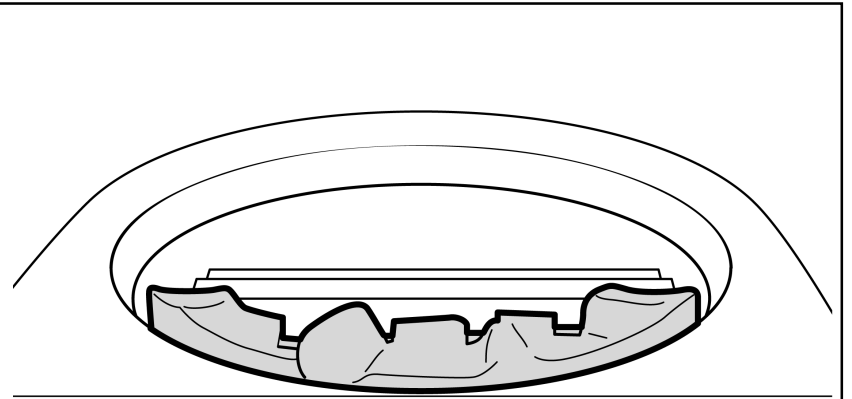

Figure 27 Front base pebble location
1. The front base pebble has a letter 'MF' on the underside. Locate the front base pebble in front of the burner (See figure 27)